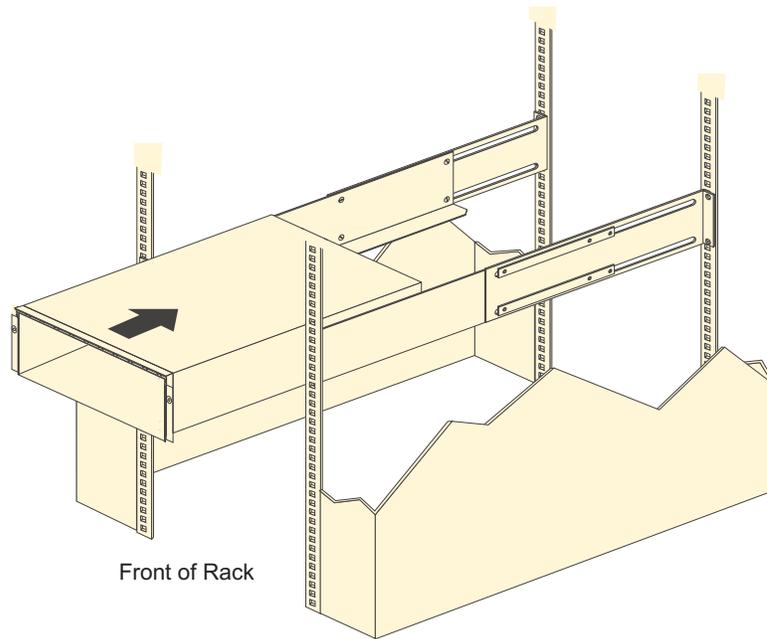

Figure 17. Installing the EXP100
- b. With help from another person, place the back of the expansion unit on the support rails. Slide the unit into the rack, as shown in Figure 17 on page 31.